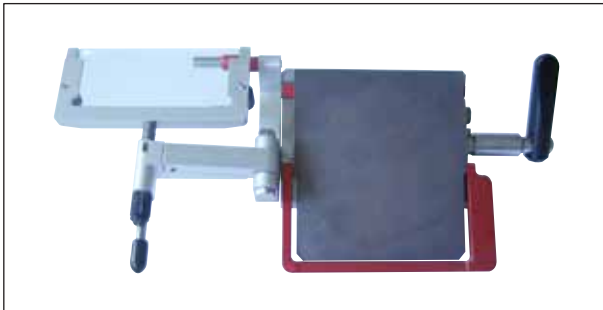

Fig. 46
- Move the anti-roll guide to the side (→ Fig. 46)).